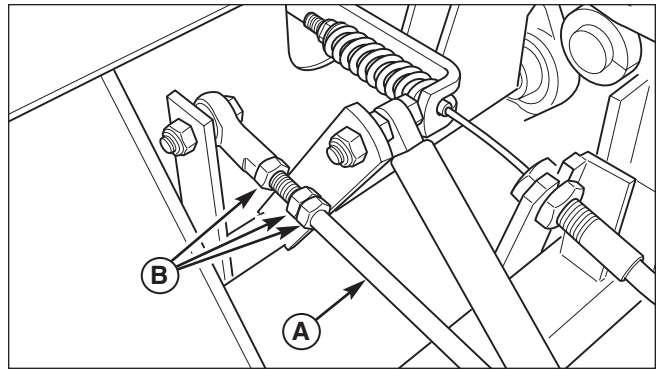

Figure 31. Neutral Adjustment (RH side shown)
2. There are three nuts (B, Figure 31) on the linkage rod. The first two are to be used together to turn the rod and the third (towards the front of the machine) is used to lock the rod in place. Loosen the jam nut that locks against the ball joint (B, Figure 31) and turn the linkage rod (A) to adjust. If the machine creeps forward, turn the rod CLOCKWISE (while standing at the rear of the machine, facing forward), if the machine creeps backward, turn the rod COUNTER-CLOCKWISE.
3. Lock the jam nut (B) against the ball joint when neutral is achieved.